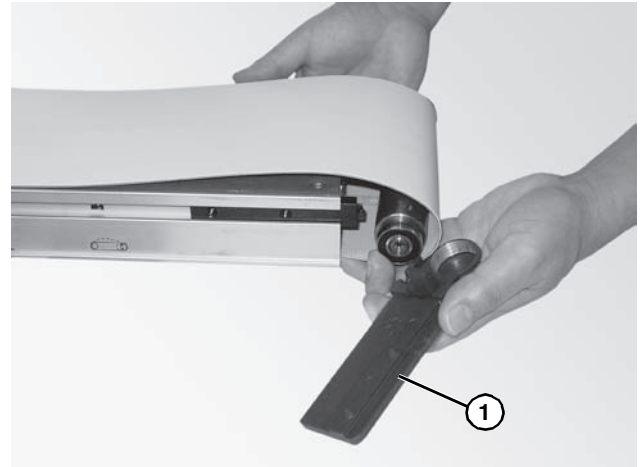

Figure 31
2. Remove the head plate (**Figure 31, item 1**) from the conveyor frame.